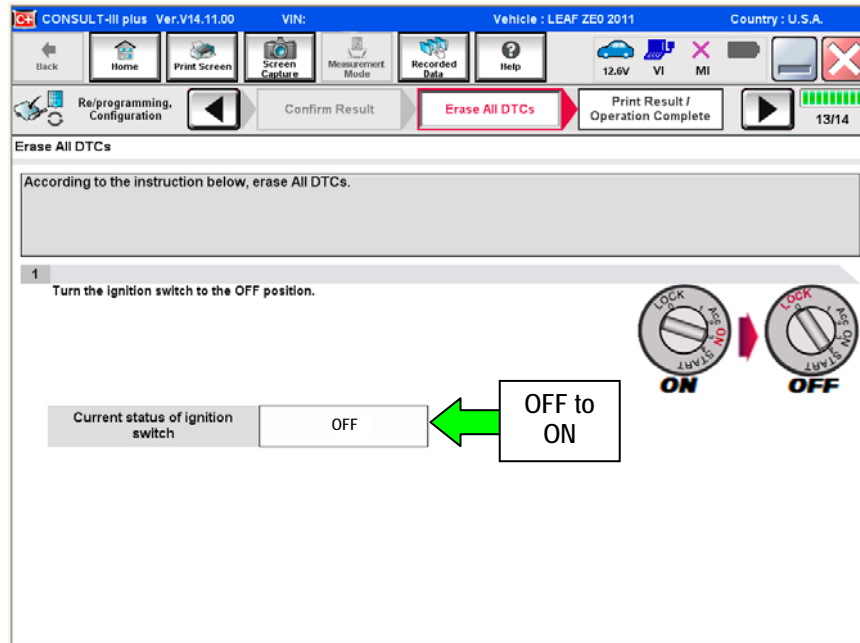

Figure 20
- The screen in Figure 20 will read **ON** after pressing the power switch twice.